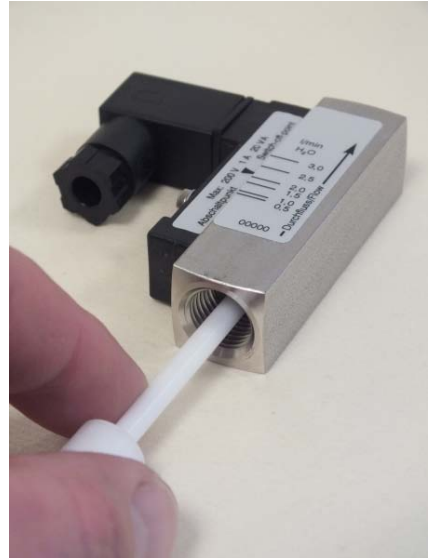

Fig. 48: Check for smooth operation
7. Check the float for ease of movement (Fig. 48) by applying pressure with the test rod